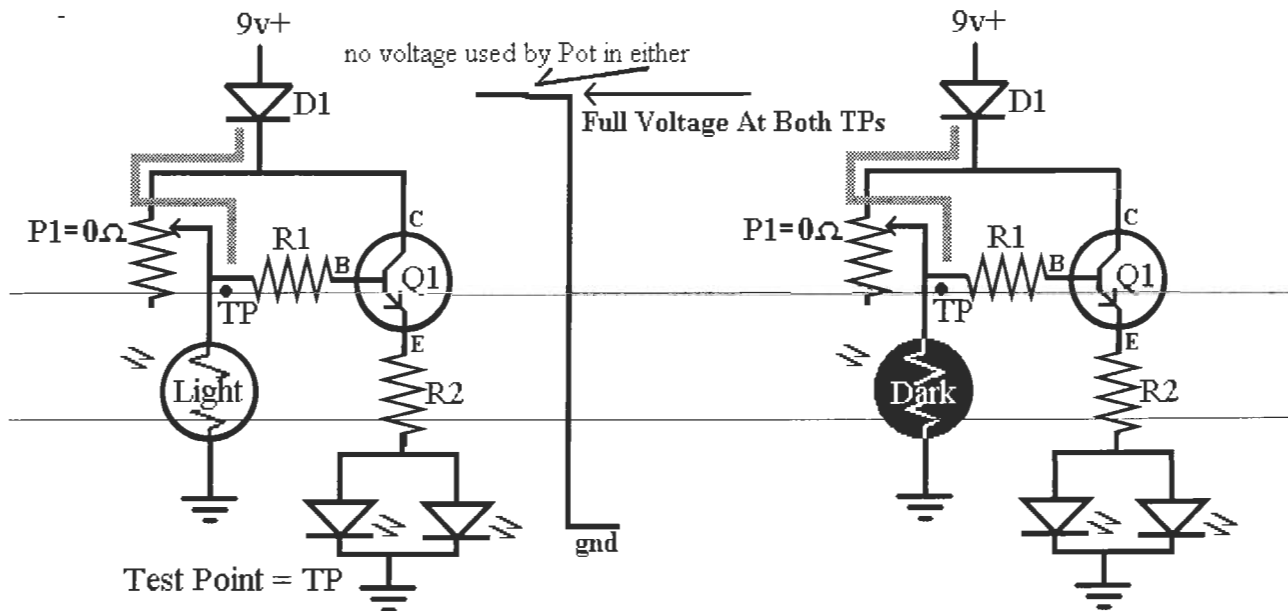

Figure L11-6
increased *proportionately*. The same thing happens with two resistor loads in this circuit. More detail is given in Figure L11-6.
5. Set the pot so the resistance between legs "A" and "C" center now has 0 ohm. Figure L11-6 shows how the voltage available to the transistor base is identical in both the light and the dark. The potentiometer uses none of the voltage, so the base of the transistor is exposed to nearly full voltage in both circumstances.
6. Now set your circuit under a fairly good light. Measure and record the voltage at the test point shown in Figure L11-6. _____ V